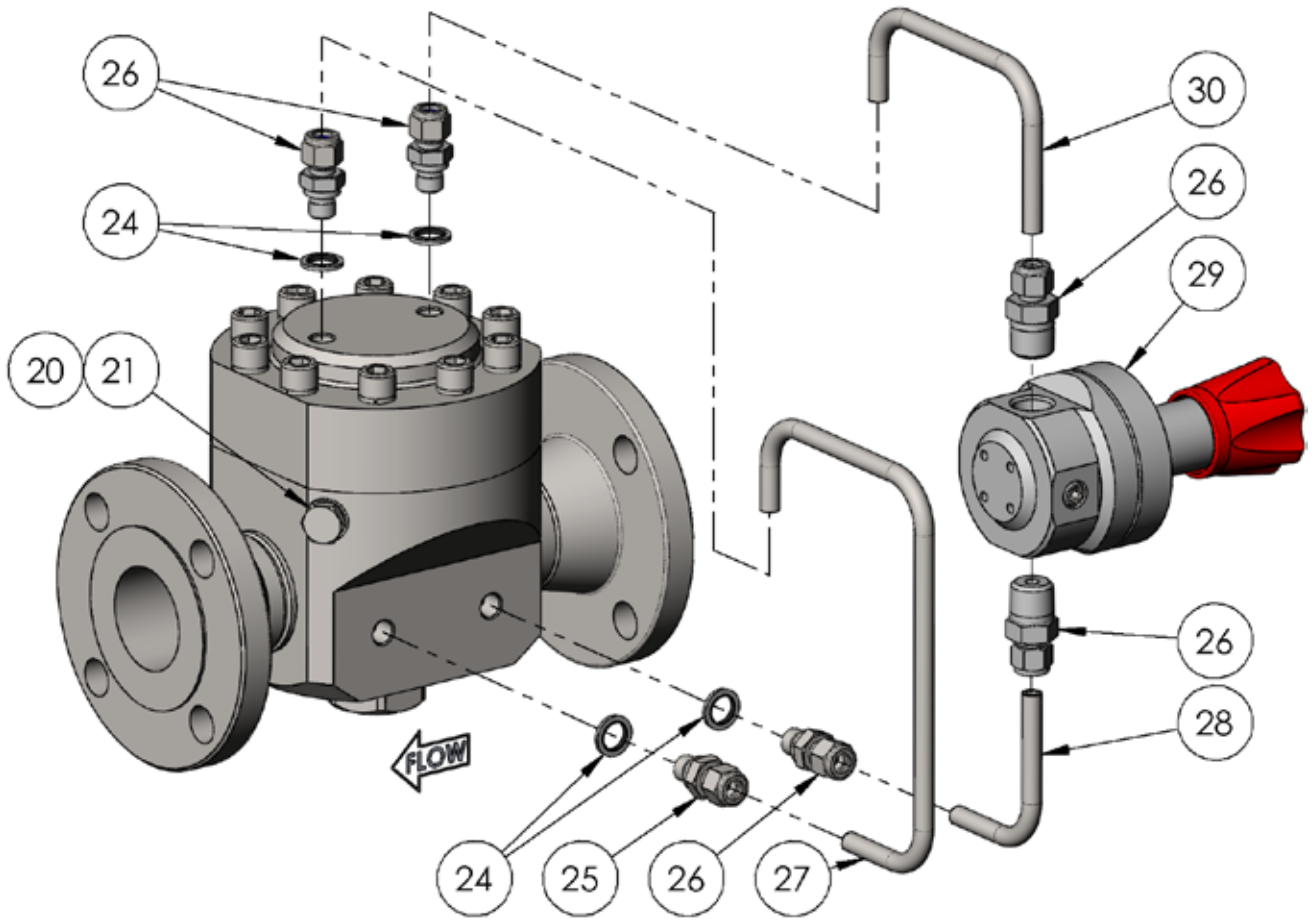
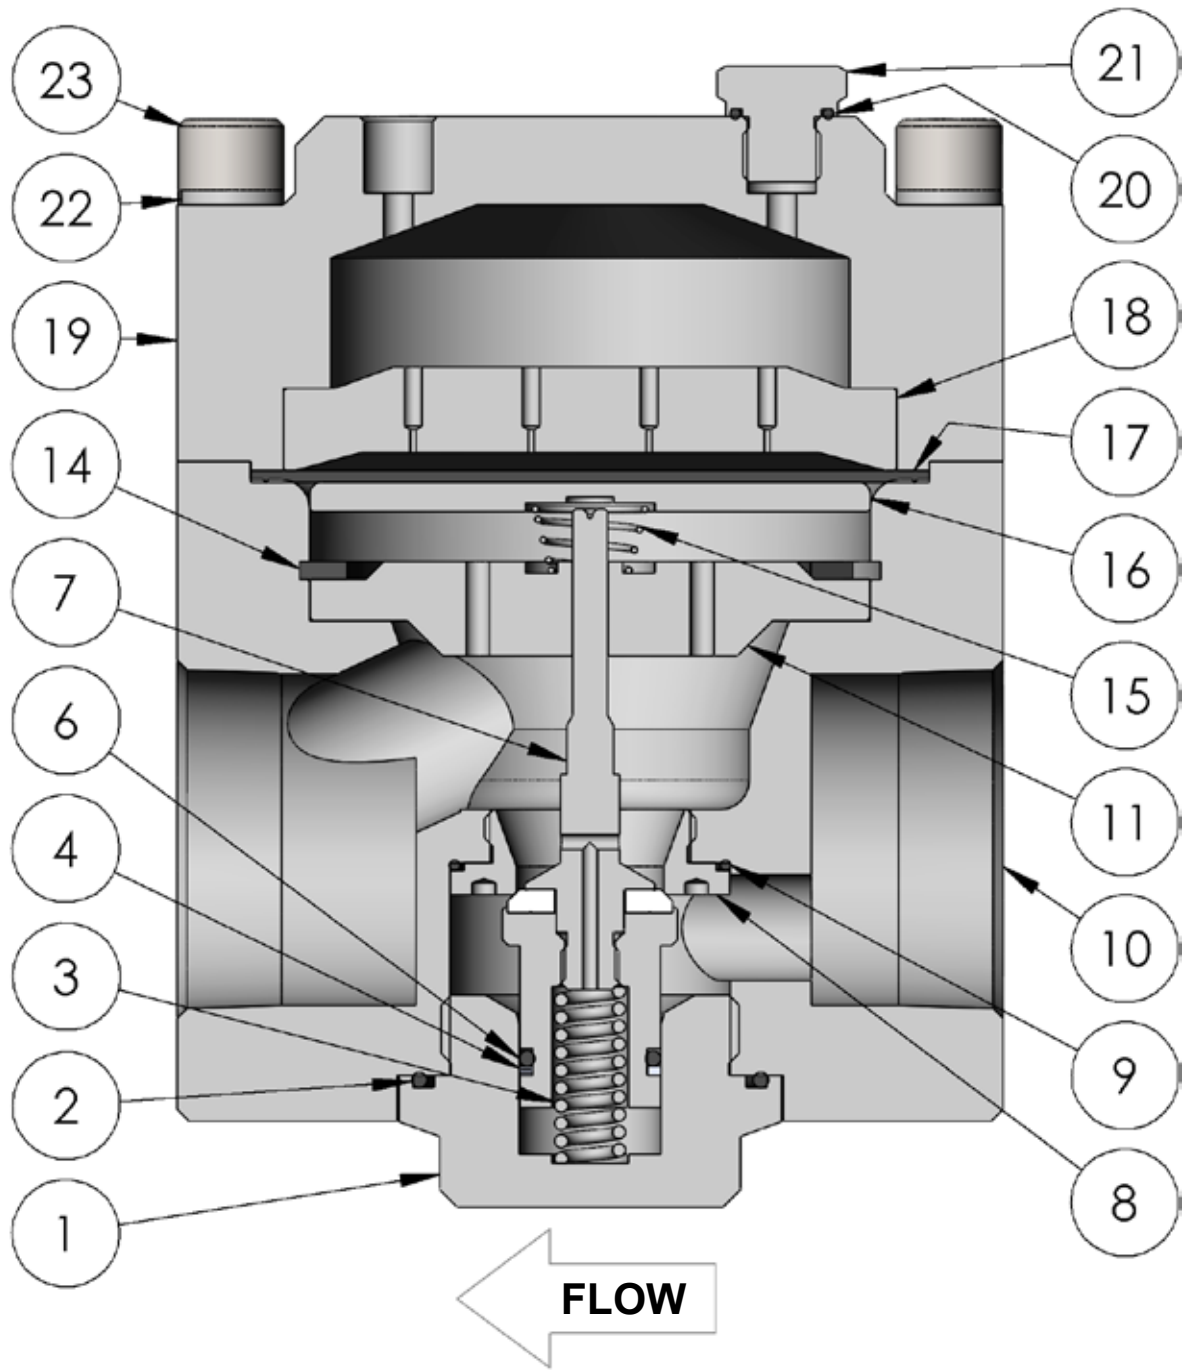

Fig 8
Fig 9
1. Fit the body plate (11) into the body (10) and retain with the retaining ring (14).
2. Fit the seat O-ring (9) into the body (10) and ensure that it is seated all the way round.
3. Lightly lubricate the seat threads (8) then insert the seat (8) into the body (10) using the seat insertion tool. Torque to 11 lbf·ft (20 N·m). Take care not to pinch the seat O-ring (9) or damage the seat (8) with the tool.
4. Fit the poppet O-ring (6) and, if present, backup ring (4) onto the poppet (7). Ensure they are oriented correctly per Fig 9.
5. Lightly lubricate the poppet O-ring (6) then insert the poppet (7) through the seat (8) and body plate (11). Take care not to damage either the seat (8) or poppet (7).
6. Place the poppet spring (3) into the poppet (7).
7. Fit the body plug O-ring (2) onto the body plug (1) and lightly lubricate the body plug threads.
8. Insert the body plug (1) into the body (10) over the poppet spring (3). Torque to 52 lbf·ft (70 N·m).
9. Place the diaphragm plate (16) onto the poppet (7).
10. Place the diaphragm (17) onto the diaphragm plate (16) and locate it in the body (10).
11. Place the dome plate (18) centrally onto the diaphragm (17) then cover with the dome (19). Orient the dome ports per Fig 8.
12. Lightly lubricate the cap screw threads (23) then use them and the washers (22) to secure the dome (19) to the body (10). Torque to 52 lbf·ft (70 N·m).
13. Install the feed tube (28), dome tube (30) and pilot regulator (29) into the ports on the inlet side of the body (10) per Fig 8.
14. Install the bleed tube (27) into the ports on the outlet side of the body (10) per Fig 8. Note that the bleed fitting (25) can be identified by its reduced internal orifice.